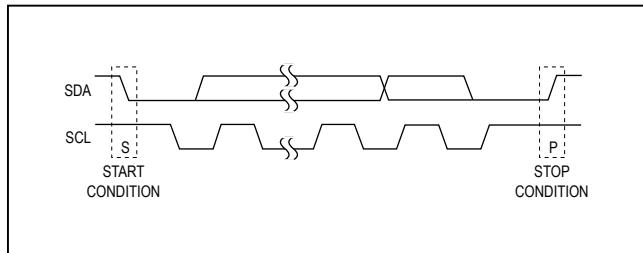

Figure 2. Start and Stop Conditions
Each transmission consists of a START condition sent by a master, followed by the MAX7322's 7-bit slave address plus R/W bit, one or more data bytes, and finally a STOP condition (Figure 2).
Both SCL and SDA remain high when the interface is not busy. A master signals the beginning of a transmission with a START (S) condition by transitioning SDA from high to low while SCL is high. When the master has finished communicating with the slave, the master issues a STOP (P) condition by transitioning SDA from low to high while SCL is high. The bus is then free for another transmission (Figure 2).